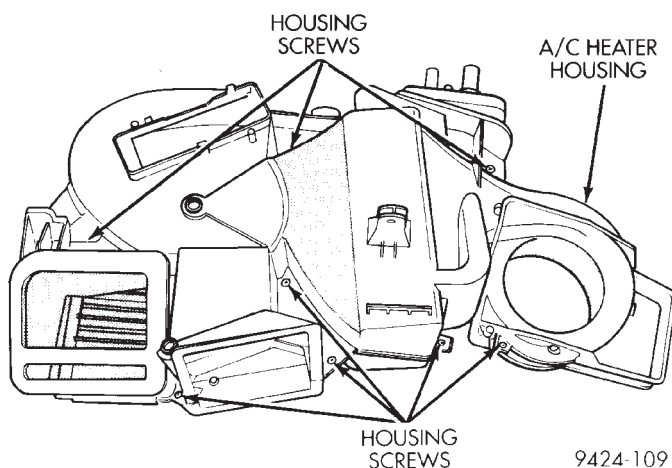

**Fig. 41 Housing Retaining Screws**
- (5) Remove upper housing retaining screws (Fig. 41).